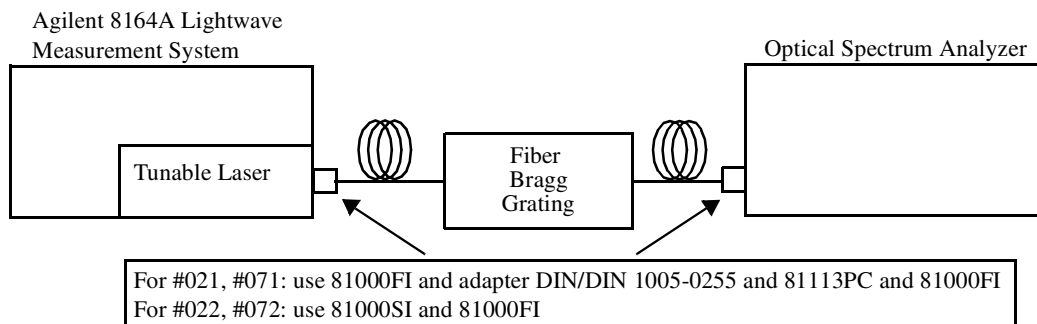

Figure 25 Test Setup for Source Spontaneous Emission Test
- 1 Connect the Tunable Laser module (DUT) to the Optical Spectrum Analyzer as shown in Figure 25. Connect the one end of the Fiber Bragg Grating (FBG)¹ to Output 1, the Low SSE output, and the other to the Optical Spectrum Analyzer.